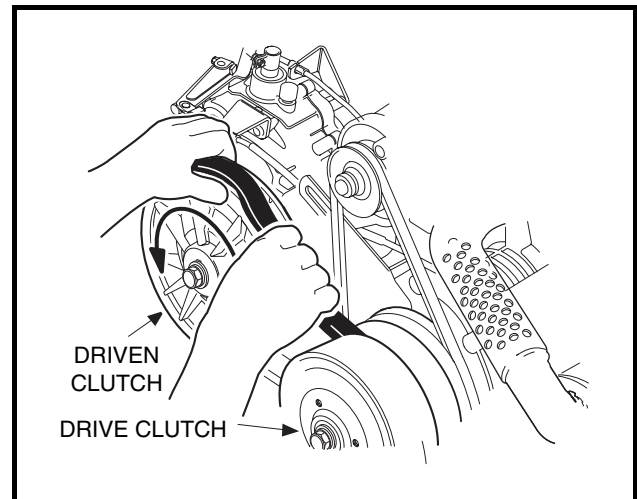

Figure 18-29 Remove Drive Belt
16.1. Grasp belt midway between drive and driven clutch and pull up on belt to force the driven clutch sheaves apart. Roll the belt counterclockwise while pulling it off driven clutch (**Figure 18-29, Page 18-12**).